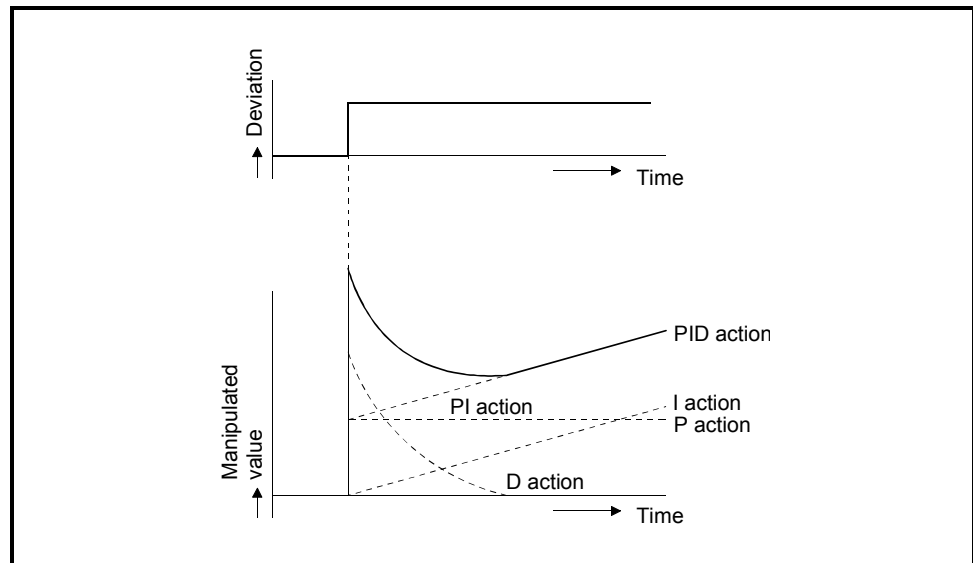

Fig. 1.12 PID action for step response
- (1) The PID action performs control using the manipulation value obtained by merging proportional action, integral action and derivative action.
- (2) The PID action for the step response when the deviation is constant is shown in Figure 1.12.